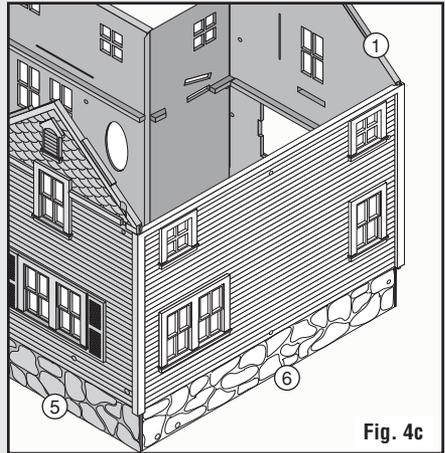

Fig. 4c
- Glue Left Side Wall ⑥ to Back Wall ⑤ and Front Wall ① (Fig. 4c).